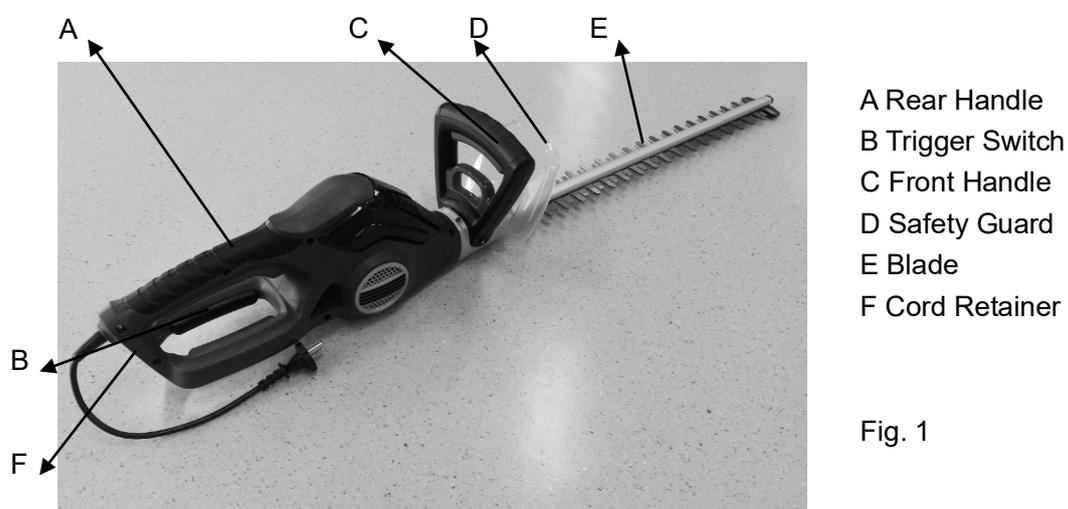

Fig. 1
- Fully unroll the power cord and use the cable hook to hang and connect it to the machine as shown in Figure 1 below.